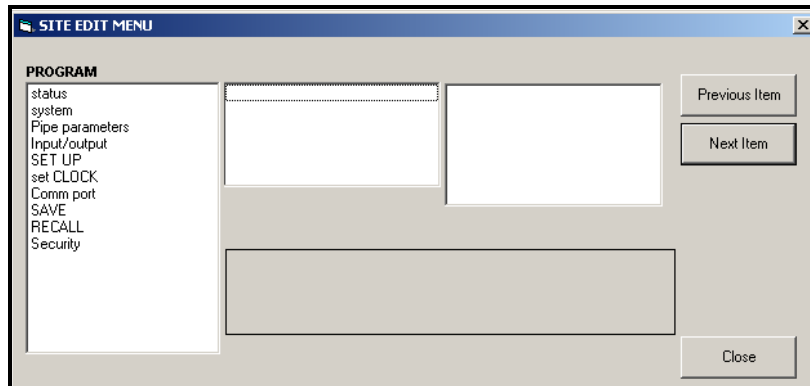

Figure 34: The Site Edit Menu Window
5. To open a particular menu, double-click on that menu on the tree. For example, if you double-click on the Site Edit Menu, a window opens similar to Figure 34.